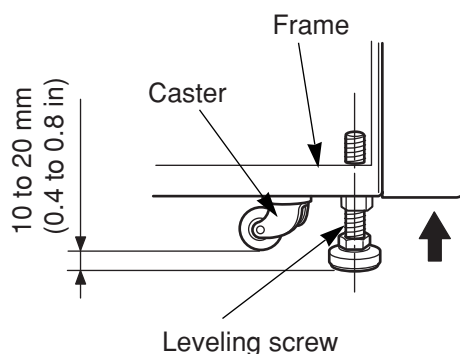

Fig. 5-2 Leveling Adjustment
- (1) Turn the four leveling screws with a wrench to lift the caster about 10 to 20 mm (0.4 to 0.8 in) off the floor as shown in Fig. 5-2.
- (2) Turn on the POWER switch and open the chamber door. Then turn off the switch again. If the power cord is not yet connected, remove the front cover and then open the door according to the instructions given in Section 2-7, "When power failure occurs."